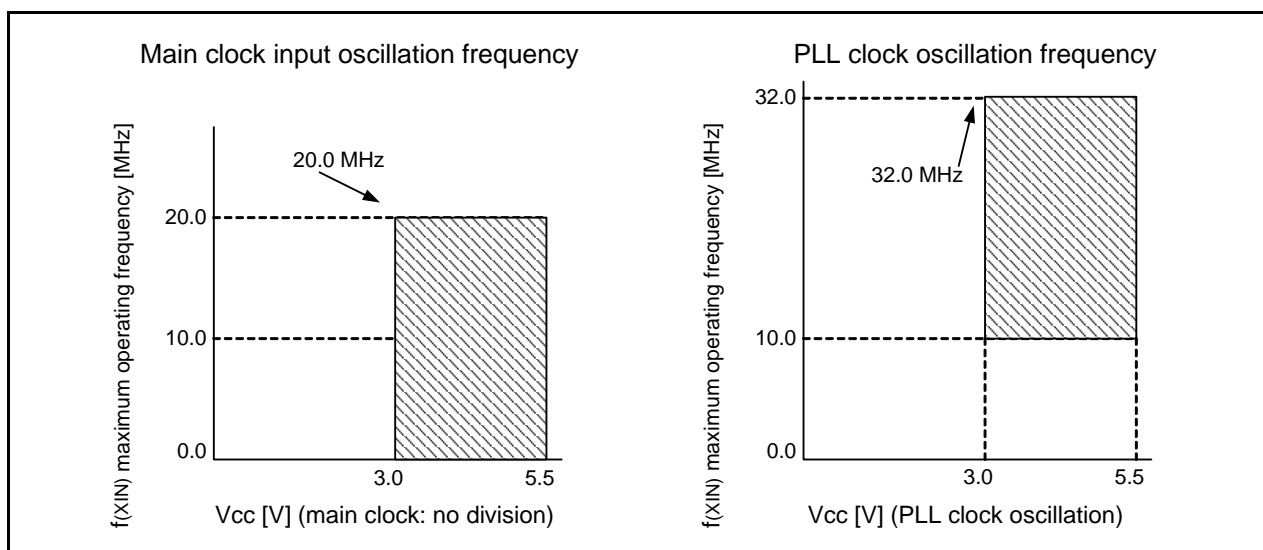

Figure 5.24 Main Clock Input Oscillation Frequency, PLL Clock Oscillation Frequency
- Refer to Figure 5.24 "Main Clock Input Oscillation Frequency, PLL Clock Oscillation Frequency" for the relationship between main clock oscillation frequency/PLL clock oscillation frequency and supply voltage.